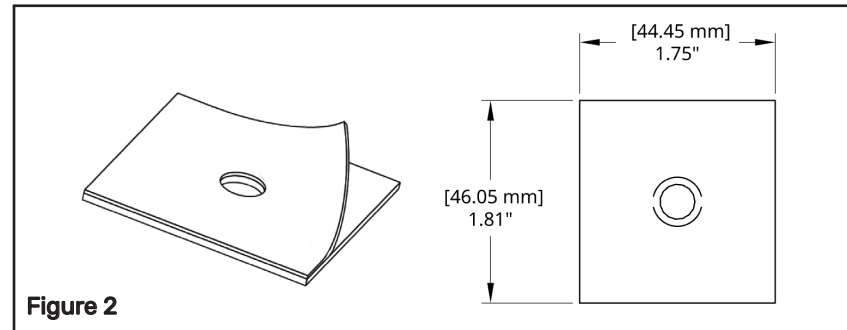

Figure 2
- Remove the adhesive backing from a gasket and **apply the sticky surface to the back of the bracket (Note: the gasket on the other side of the glass does not have a sticky surface)**. Note: be sure to align the edges of the gasket properly (they are taller than wide) and the location of the hole to match that on the bracket. **Figure 2.**